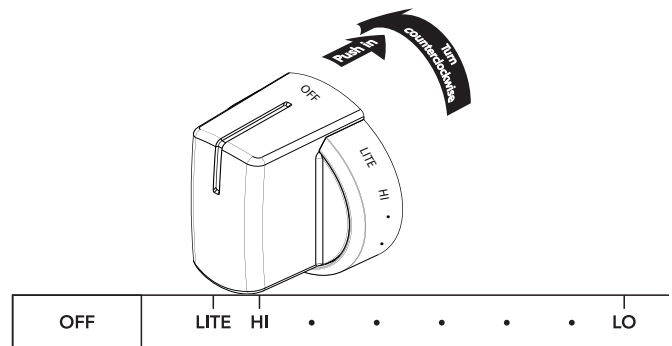

Figure 2: Operating the gas knob
3. Release the knob and rotate to the LITE position (see figure 2). Note: All four electronic surface ignitors will spark at the same time. However, only the burner you are turning on will ignite.